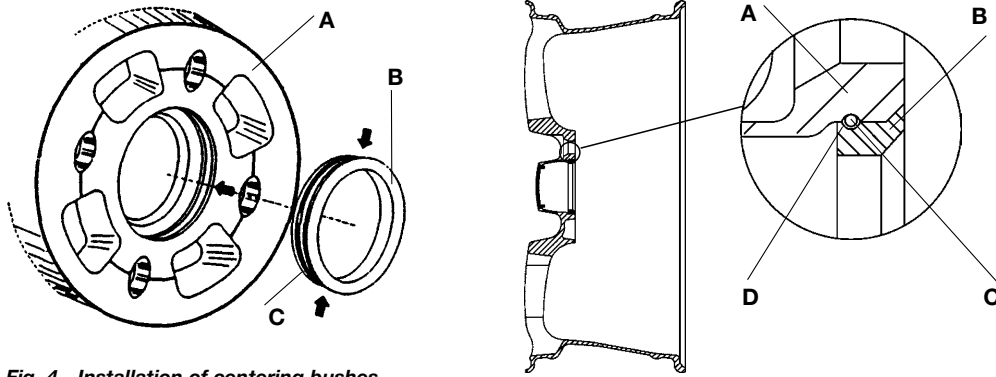

Fig. 4 - Installation of centering bushes
- Apply the centering bushes (B) on the wheel hub (A) by pressing the retaining snap ring (C) with your fingers (Fig. 4).
- Check the proper insertion of the retaining snap ring (C) in the relative seat (D); this is determined by the locking of the centering bush in the wheel hub (Fig. 4).